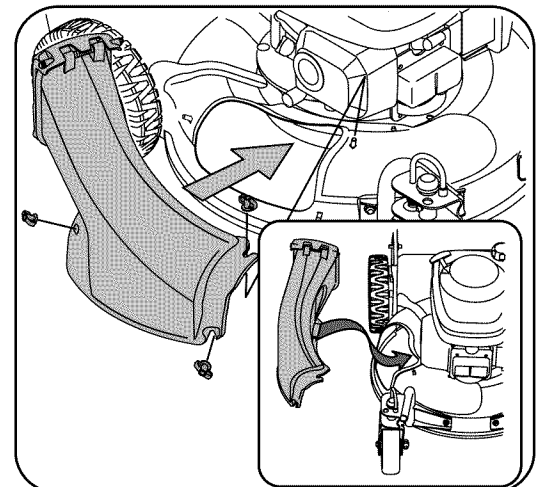

Figure 4
- b. Replace with grass bag adapter, while making sure the front lip of adapter goes under the edge of the deck. Secure with wing nuts previously removed. See Figure 4.